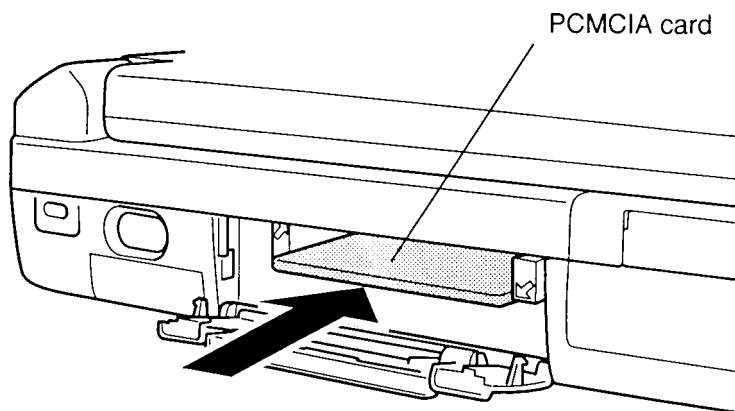

*Figure 4-8 Removing the PCMCIA card*
4. Press the **eject button** to pop the card out slightly and remove it (figure 4-8).